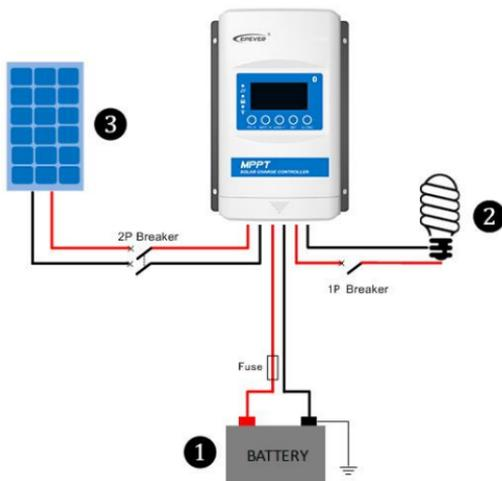

Figure 2-2 Schematic of wiring diagram
**Step 2:** Connect the system in the order of ❶ battery → ❷ load → ❸ PV array by Figure 2-2 “Schematic Wiring Diagram” and disconnect the system in the reverse order ❸❷❶.